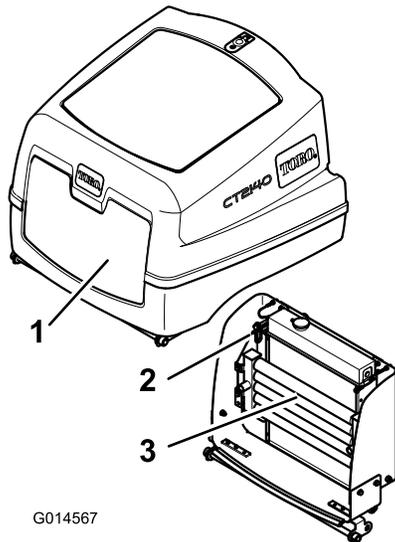

Figure 58
4. Release the latch and open the engine cover (Figure 58).